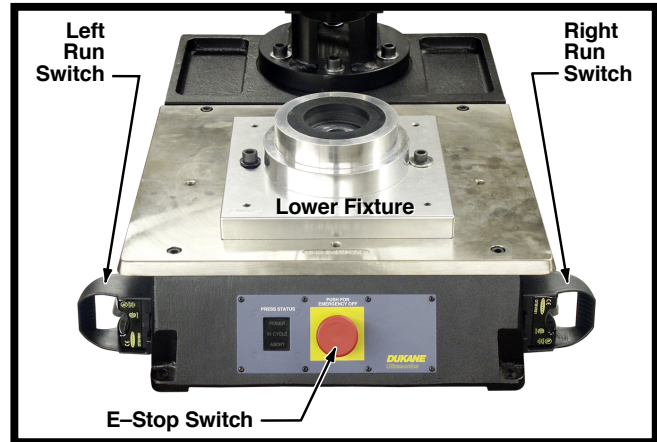
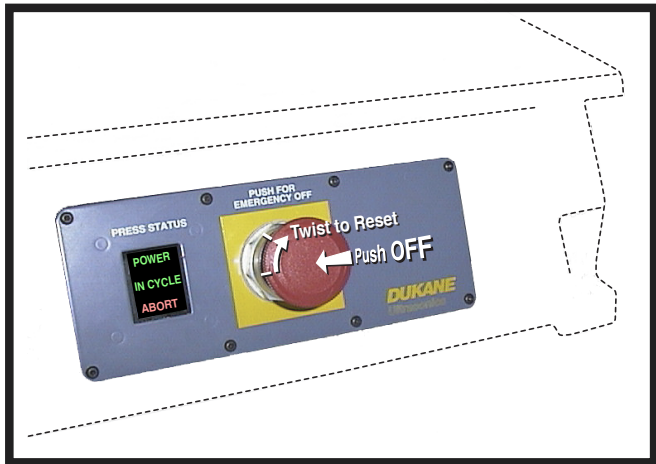
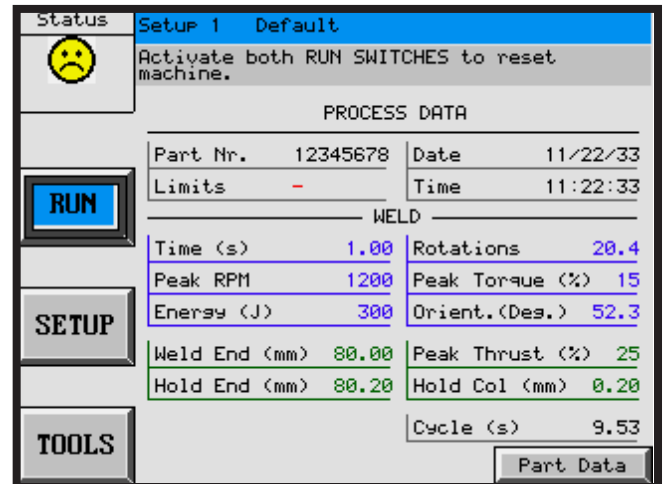
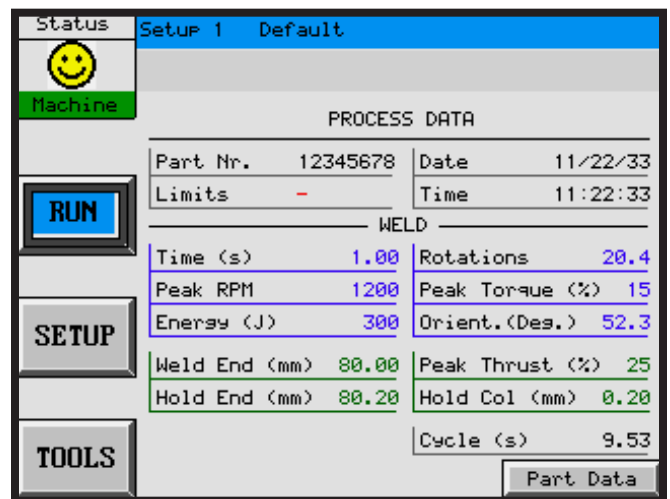

Figure 4-3 Operate Switches and E-Stop
Figure 4-4 Setting and Resetting the E-Stop
Figure 5-1 Startup Screen With E-Stop Cleared
Figure 5-2 Run Mode Screen With Welder Reset
A red Emergency-Stop (E-STOP) switch is located in the center of the base as shown in Figure 4-3. The emergency stop switch must be in its reset position before the operate switches will function. To reset the Emergency Stop, twist the large red button about 45 degrees clockwise, which will cause the button to spring out. This is depicted in Figure 4-4.
Located on either side of the base are two optical RUN switches. These are shown in Figure 4-3. These switches use Infrared (IR) sensors. They comply with OSHA and CE safety standards. Both switches are identical.
When the welder is first turned on after the E-Stop switch is reset (see Figure 4-4), the **STARTUP** screen is displayed as shown in Figure 5-1 directing the operator to *Activate both RUN SWITCHES to reset machine*. Press both switches simultaneously and hold until a beep sounds, which will take several seconds. A second beep will sound a few seconds after the first, indicating that the welder is ready to run a weld cycle (the bar under the smiley face will become green at the same time). The message area is now clear and the **STATUS** icon in the upper left has changed to a smiley face with a green band below it as shown in Figure 5-2. If, when the switches are activated as described above, the tooling hub begins to oscillate instead of rotating smoothly, press the E-Stop and then check that the correct tooling inertia is entered as described later in this manual in the **SETUP** Menu (under **TOOL SETUP**).
The screen shots on this page all show the **RUN** mode. The **RUN** screen is the default startup screen. This screen needs to be selected in order to initiate a weld cycle. Just below the **PROCESS DATA** label as shown in Figure 5-2, there are a number of fields containing part data. The **Part Nr.** field identifies the current sequential part number. The **Limits** field indicates if the last weld was within programmed process limits and displays “-” if no limits were violated, “S” for suspect part, “B” for a bad part, or “E” for an error. A suspect or